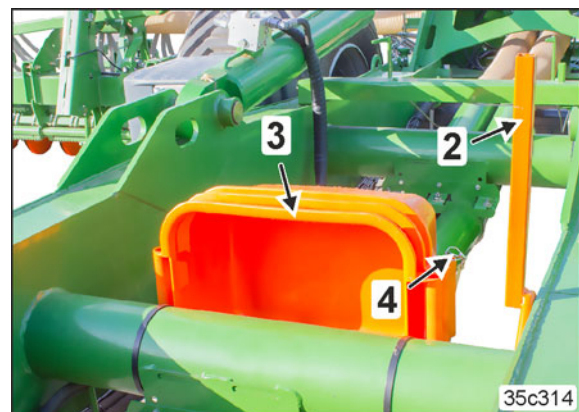

Fig. 64
When not in use, the calibration troughs are inserted inside one another and secured in the transport bracket using a lynch pin (Fig. 64/4).
- Condor 15001-C (Fig. 64/3)
- Condor 15001-C (Fig. 64/2)